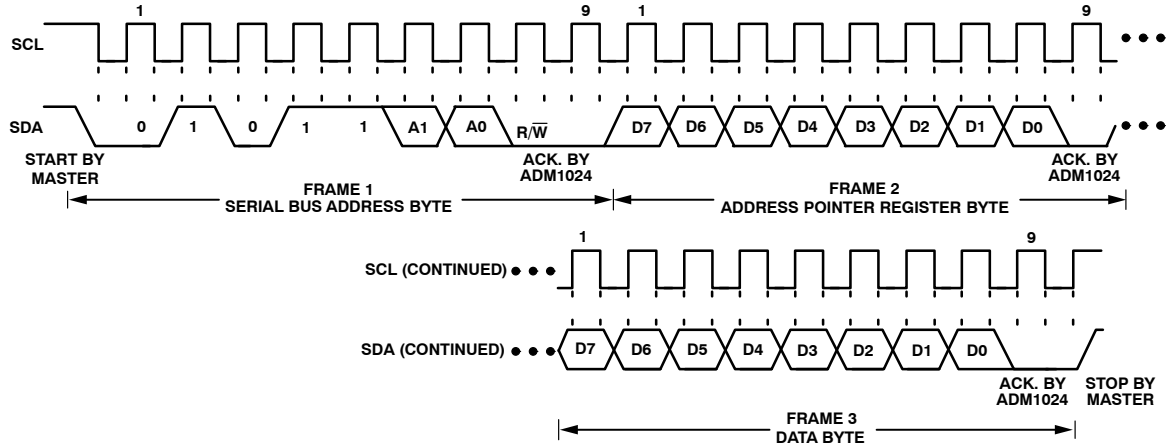
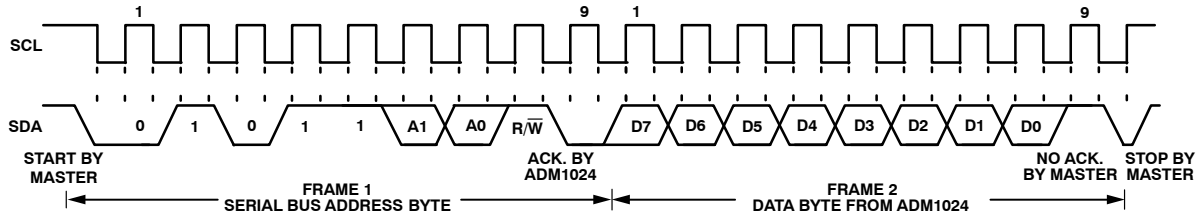

Figure 10. Writing a Register Address to the Address Pointer Register, then Writing Data to the Selected Register
Figure 12. Reading Data from a Previously Selected Register
To write data to one of the device data registers or read data from it, the Address Pointer Register must be set so that the correct data register is addressed, then data can be written into that register or read from it. The first byte of a write operation always contains an address that is stored in the Address Pointer Register. If data is to be written to the device, the write operation contains a second data byte that is written to the register selected by the Address Pointer Register. This is illustrated in Figure 10 The device address is sent over the bus followed by R/ $\overline{W}$ set to 0. This is followed by two data bytes. The first data byte is the address of the internal data register to be written to, which is stored in the Address Pointer Register. The second data byte is the data to be written to the internal data register.
A read operation is then performed consisting of the serial bus address, R/W bit set to 1, followed by the data byte read from the data register. This is shown in Figure 12.
2. In Figure 10 to Figure 12, the serial bus address is shown as the default value 01011(A1)(A0), where A1 and A0 are set by the three-state ADD pin.